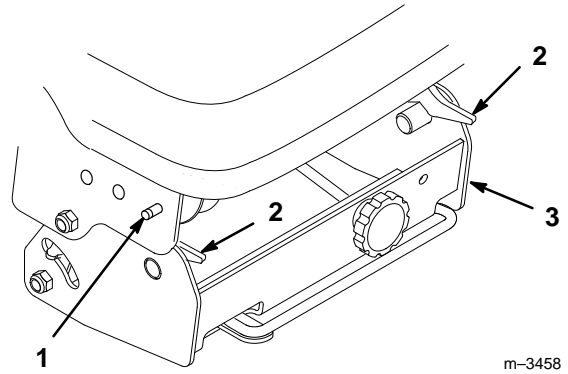

Figure 22
11. If you wish to remove the pulley box, push the latch release buttons on the front Attach-A-Matic™ (Fig. 22) and raise the latch levers to open the latches holding the pulley box. Remove the pulley box.